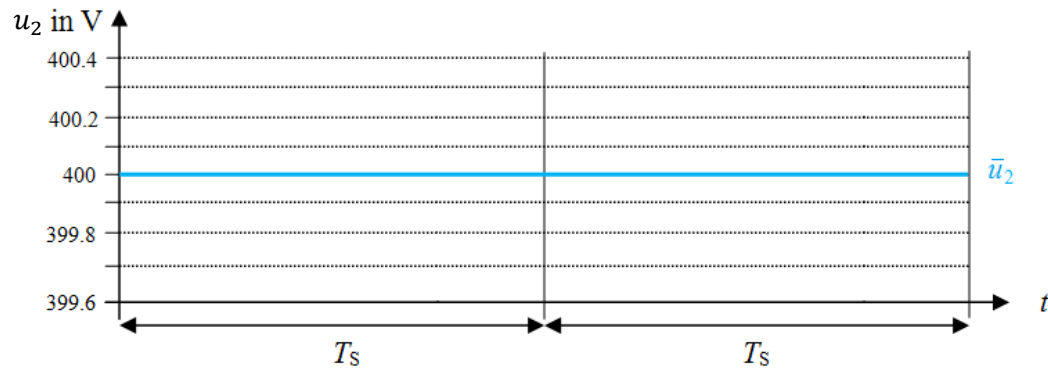

Figure 2.3: output voltage
- 2.5** The boost converter is still loaded with  $R_L$ . The output voltage ripple  $\Delta u_2$  (peak-to-peak) was assumed to be negligible but a precise measurement revealed 0.2 V. Calculate the value of the output capacitor  $C$  and draw the voltage  $u_2(t)$  over two switching periods in the diagram in Figure 2.3.